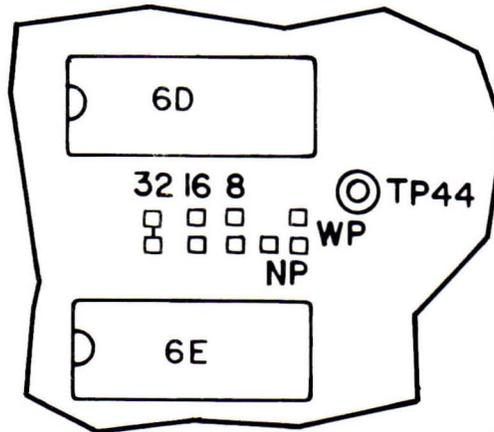

FIGURE 3-14. SECTOR AND WRITE PROTECT
1. Cut away trace 32 located between 6D and 6E. See Figure 3-14.
1. Cut away trace WP located near 6D. See Figure 3-14.